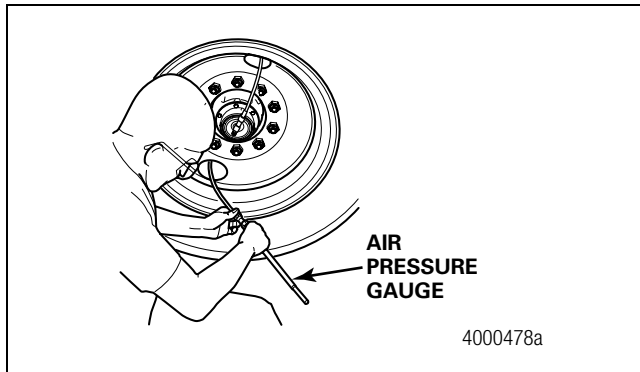

Figure 3.8
11. Disconnect the test-tire hose from the through-tee. Check the test-tire pressure using an accurate air pressure gauge. Tire pressure should equal the system pressure setting on the decal in the control box. Figure 3.8.